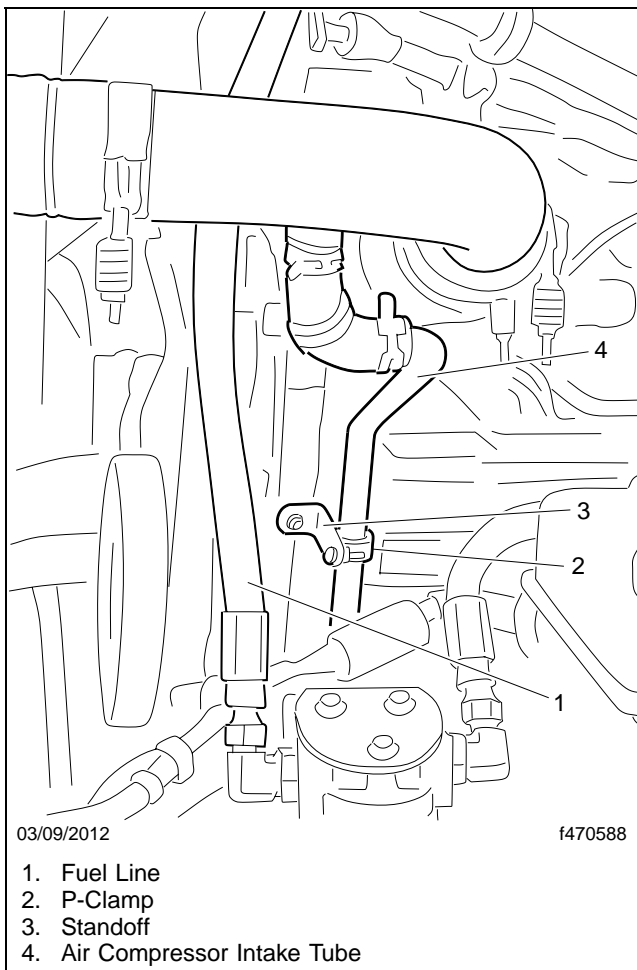
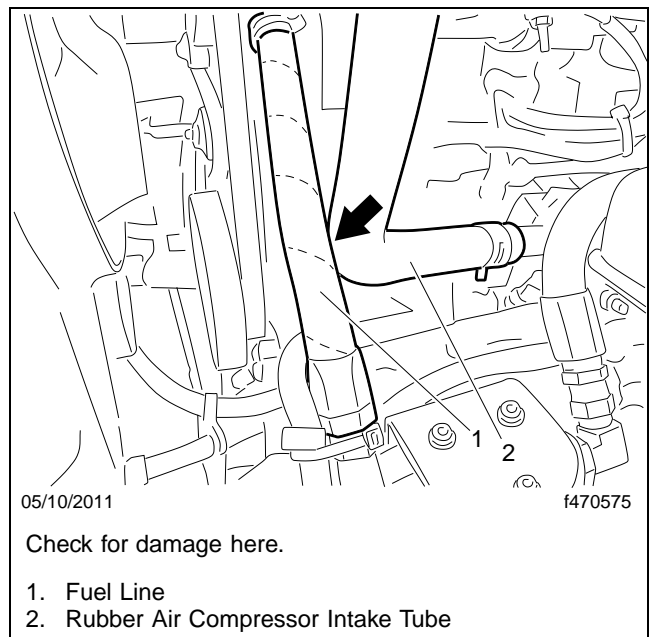

Fig. 1, Correct Air Compressor Intake Tube Assembly Installation
Fig. 2, Fuel Line and Rubber Air Compressor Intake Tube Contact Area
3. Inspect the air compressor intake tube assembly installation. See **Fig. 1** for correct installation, and **Fig. 2** for the incorrect installation.
NOTE: The standoff bracket shown in **Fig. 1** is optional. It may be removed and the P-clamp attached directly to the block.